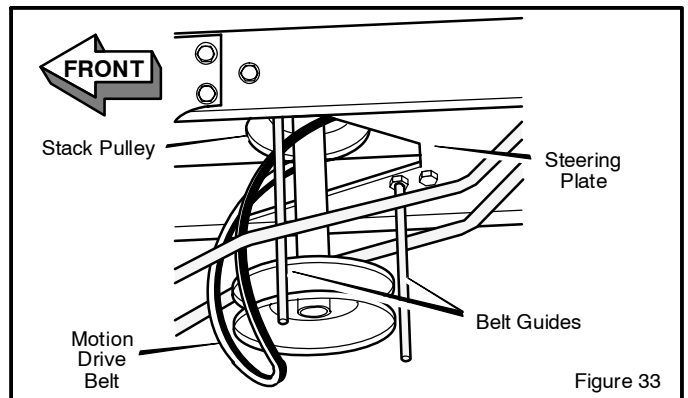

Figure 33
7. To remove the **motion drive belt** from the **stack pulley**, pull the front end of the belt under the **stack pulley** and then back between the stack pulley and the **steering plate** (Figure 33).
1. Slide the **motion drive belt** between the **stack pulley** and the **belt guides** (Figure 33). Install the **motion drive belt** on the top pulley of the **stack pulley**. Make sure the "V" side of the belt is against the pulley.